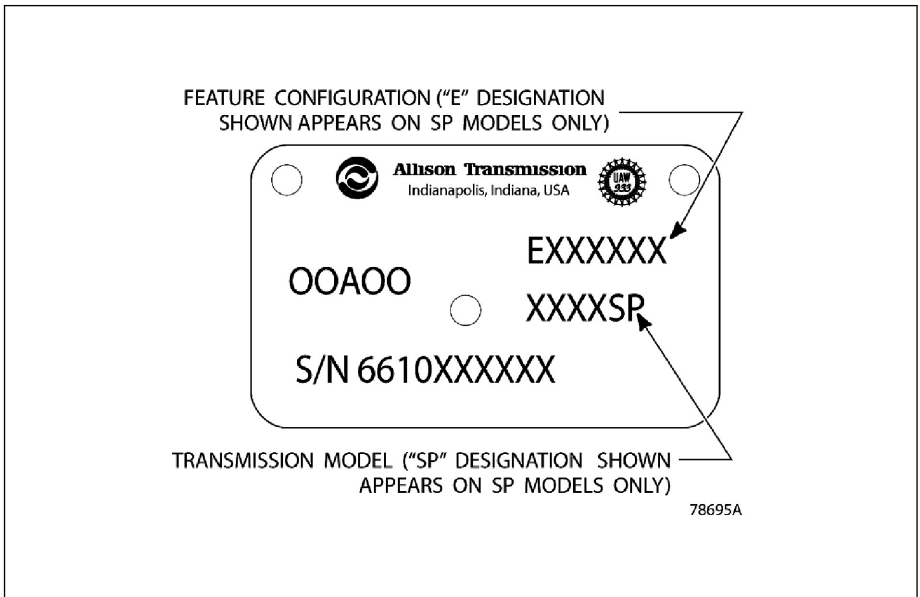

Figure 12–1. Transmission Nameplate
12.1.1 TRANSMISSION NAMEPLATE. The nameplate (refer to Figure 12–1) is located on the right side of the transmission and is imprinted with the following: